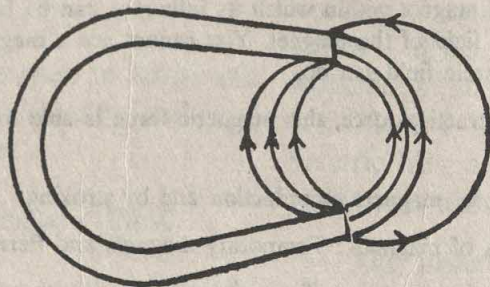

Fig. 7.25
2. Fig. 7.25 is a diagram of the magnetic field of a horse-shoe magnet. Mark its poles.